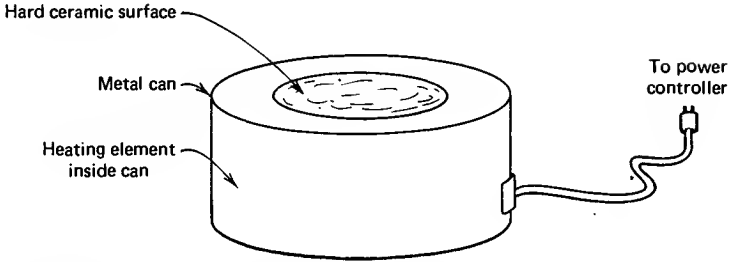

Fig. 62 A Thermowell heating mantle.
3. ***The Thermowell heating mantle.*** You can think of the Thermowell heating mantle as the fiberglass heating mantle in a can. In addition, there is a hard ceramic shell that your flask fits into (Fig. 62). Besides just being more mechanically sound, it'll help stop corrosive liquids from damaging the heating element if your flask cracks while you're heating it.